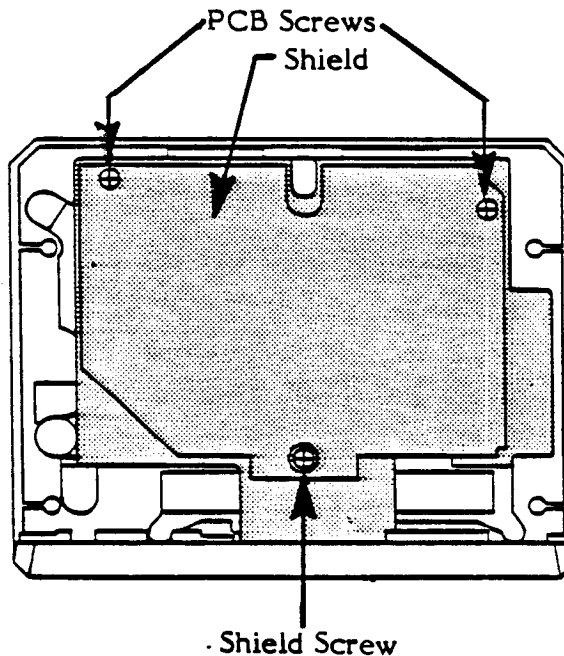

Figure 3-3. Accessing the 1010S PCB
- Remove the shield screw and the shield (see Figure 3-3).
- Remove the two screws holding the PCB in place (see Figure 3-3). Do not lift the PCB off yet. **Note:** The longer screw with the larger thread bit must be returned to the plastic posthole.